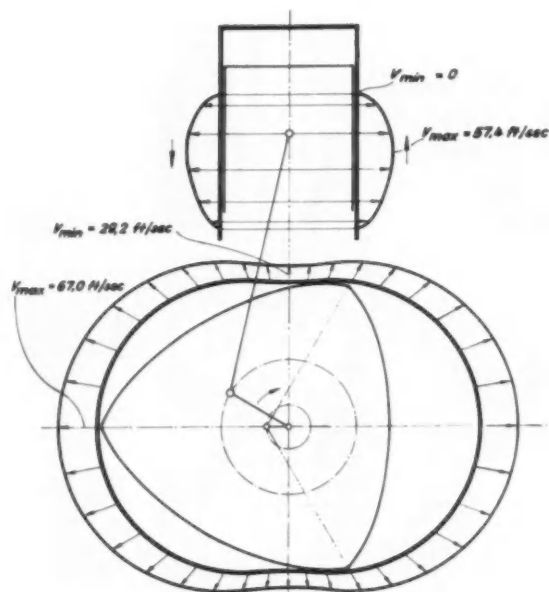

Fig. 3 — Sliding velocities for rotating combustion engine and reciprocating engine, at 5000 rpm. (Both engines of 15.3 cu in. displacement.)
- Sliding velocity of the apex seals along the trochoidal surface is reasonable. The polar diagram around the trochoid (Fig. 3) shows that the sliding velocity at 5000 rpm stays within 29 and 67 fps, whereas the piston engine piston speed varies between zero and 57 fps. The leaning angle, in this